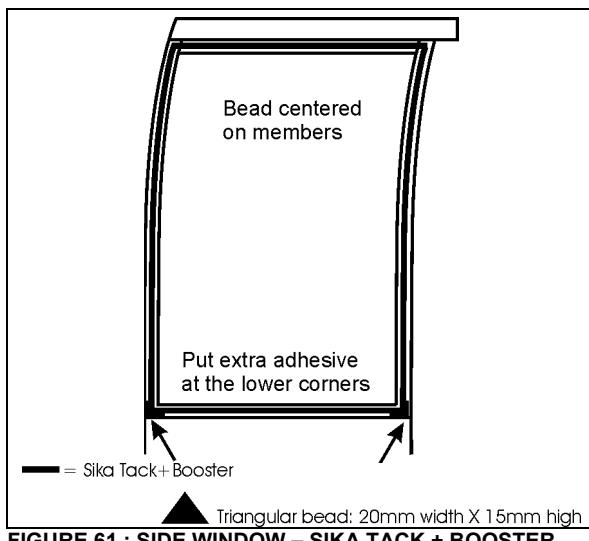
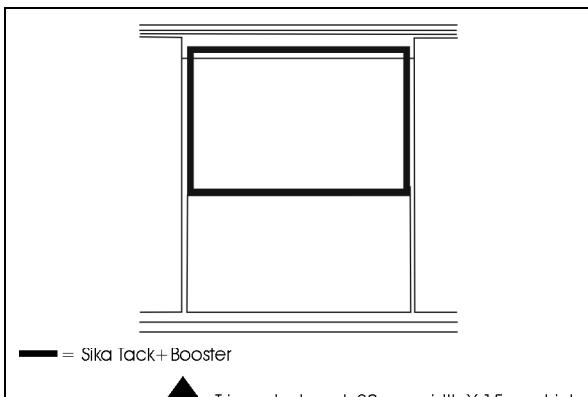

FIGURE 61 : SIDE WINDOW - SIKA TACK + BOOSTER
FIGURE 62 : HALF-WINDOW INSTALLATION – SIIKA TACK+BOOSTER
10. Apply Sika Tack+Booster (triangular bead: 20mm width X 15mm high) as per FIGURE 61 (side window) or FIGURE 62 (half-window) [20mm≈13/16"] [15mm≈19/32"];